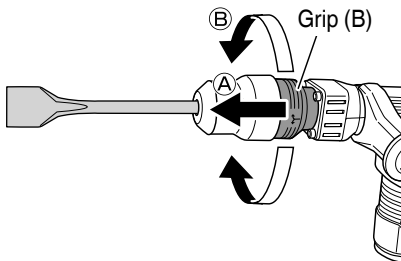

Fig. 8
- (1) As shown in Fig. 8, the blade angle can be freely changed if the grip (B) is turned in the direction of (⊕) in a state where grip (B) is slid in the direction of (⊖).